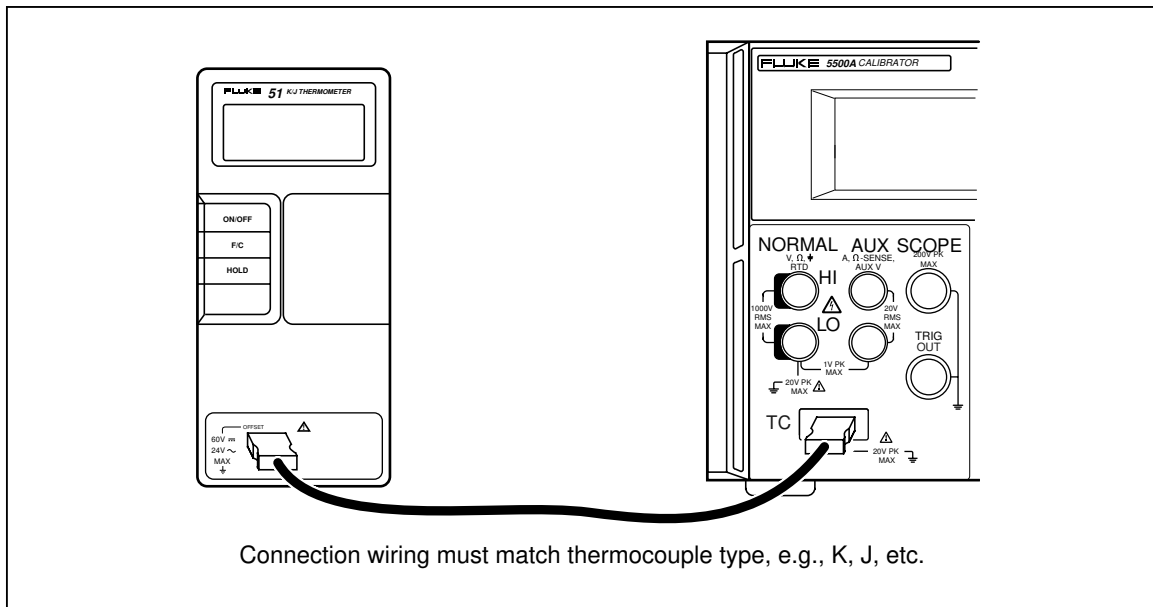

Figure 4-19. Cable Connections for Testing a 50 Series Thermometer
1. Connect the Fluke 51 Thermometer to the calibrator using the appropriate connection cable (Figure 4-19). The connection cable and miniconnector material must match the thermocouple type. For example, if testing a K thermocouple, the cable and miniconnector are for a K thermocouple.
2. Ensure the calibrator is in standby and connect the UUT to the calibrator as shown in Figure 4-19. When making this connection with the UUT case top removed, make sure that the wide blade is oriented the same as the case top would normally allow.